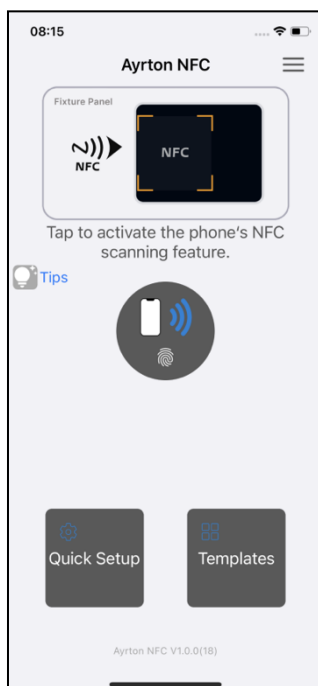

Figure 1
- 1) Open the Ayrton NFC App (as shown in Figure 1), tap the button to activate NFC scan